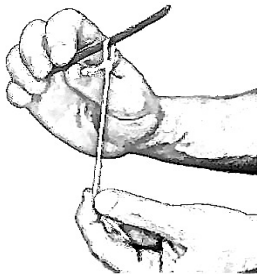

Fig. 1
1) Tie one end of the string to the shaft (Fig. 1).